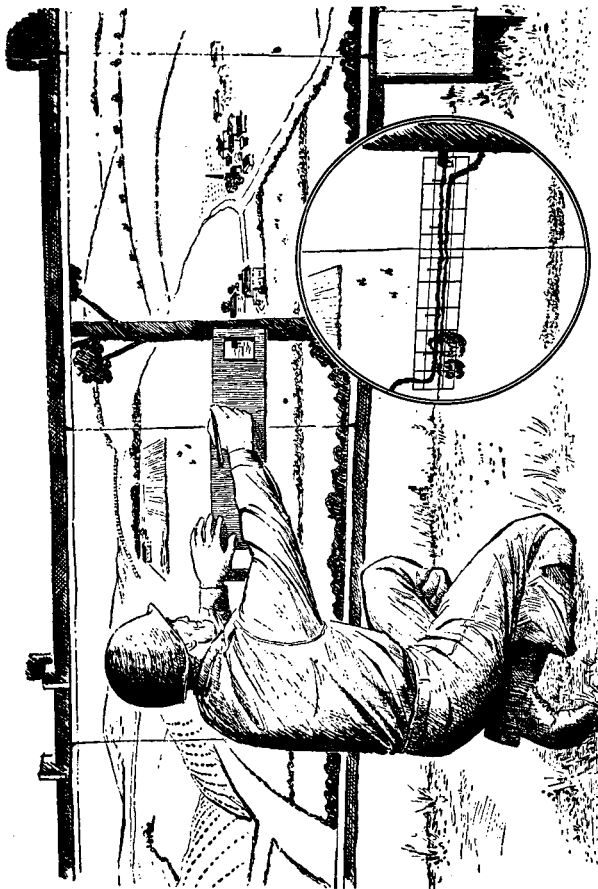

Figure 116. Lining in a scoring area (horizontal linear target) with scoring areas and distribution spaces.
- (1) The template for scoring linear targets can also be constructed of material similar to that recommended for the point target template. Here, as with point targets, the template outline should be drawn in very lightly before the problem is fired. The insert on figure 116 shows a drawing of the template outline. The 50 percent zone consists of
two lines drawn $2\frac{1}{2}$ inches apart parallel to the longer axis of the target. Two additional lines, similarly drawn 5 inches apart above and below the 50 percent zone, constitute the 75 percent zone. Because riflemen and automatic riflemen are taught to distribute their fire beyond the known flanks of the enemy, the template is extended one inch beyond each flank of the target to give additional scoring space for proper fire distribution. The entire area is divided into ten equal parts regardless of the length of the target. These parts are known as distribution spaces (fig. 116).